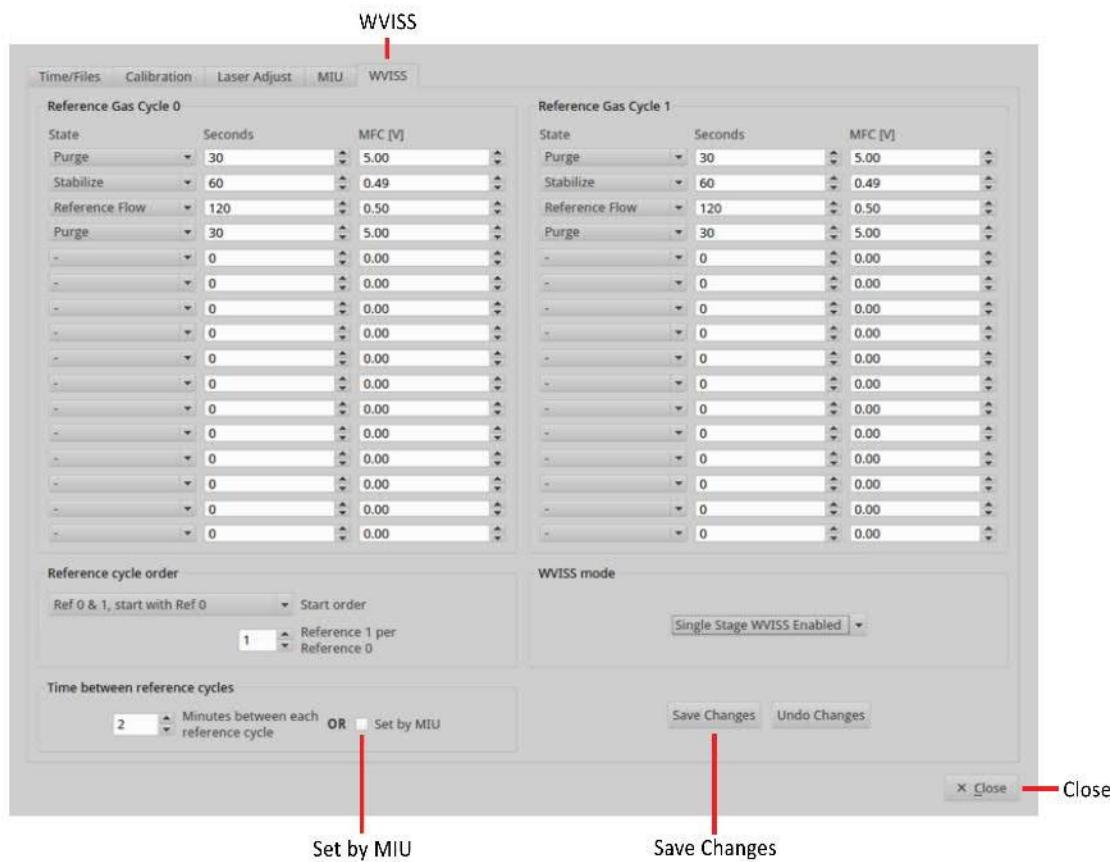

Figure 109: WVISS Setup Panel
- a. Click on the WVISS tab at the top of the Setup menu selection bar to access the *WVISS Setup Panel*. (Figure 109)
- c. Check the Set by MIU checkbox. (Figure 109)